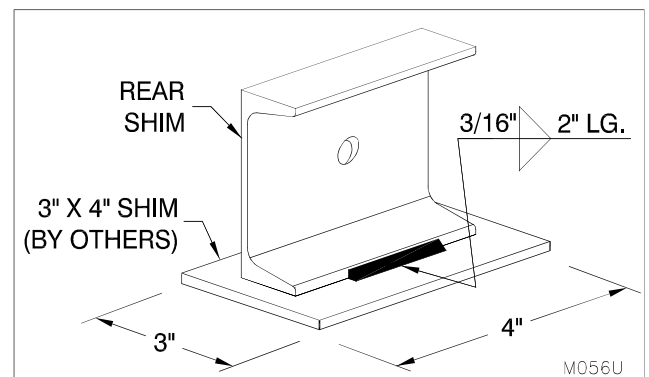

Figure 22: Rear Shim (4" Shim Kit Shown)
1. ___ For 3” or 4” shim kits, weld two rear shims (see Table A) to a single shim plate each (3” x 4” x minimum ASTM A-36 or CSA G40.21 supplied by others) as shown in “Figure 22: Rear Shim (4” Shim Kit Shown)” on page 16. This step adds stability to the shims while installing the dock. This step is not required for 1” or 2” shim kits as the blocks are sufficiently stable as supplied.
1. ___ For 3" or 4" shim kits, weld two rear shims (see Table A) to a single shim plate each (3" x 4" x minimum ASTM A-36 or CSA G40.21 supplied by others) as shown in "Figure 22: Rear Shim (4" Shim Kit Shown)" on page 16. This step adds stability to the shims while installing the dock. This step is not required for 1" or 2" shim kits as the blocks are sufficiently stable as supplied.